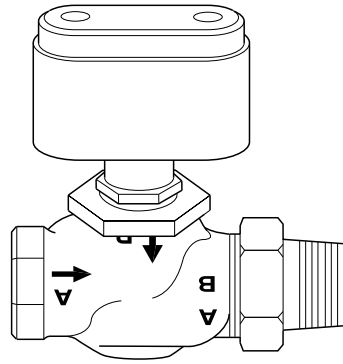

Figure-4 MK-2690 Actuator Mounted on VB-7XXX Valve.
10. Install the actuator onto the valve by screwing the actuator base onto the mounting nut (Figure-4). The actuator may be rotated as desired to facilitate making the pneumatic connection.